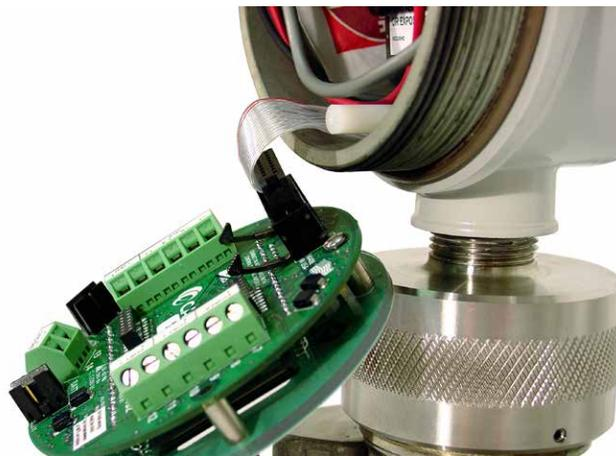

Figure C.12 - Latch securing the ribbon cable
- a. Lift the latch from the black clip securing the ribbon cable (Figure C.12).